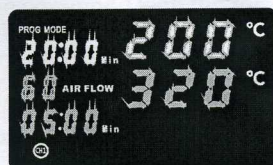

Figure 4
5. Rotate the "START/STOP" key, or press the preheating station temperature plus and minus key, to set time of the preheating station, press the "START/STOP" button to determine, and at the same time to the air gun air volume settings, "60" flashing, as shown in figure 4.